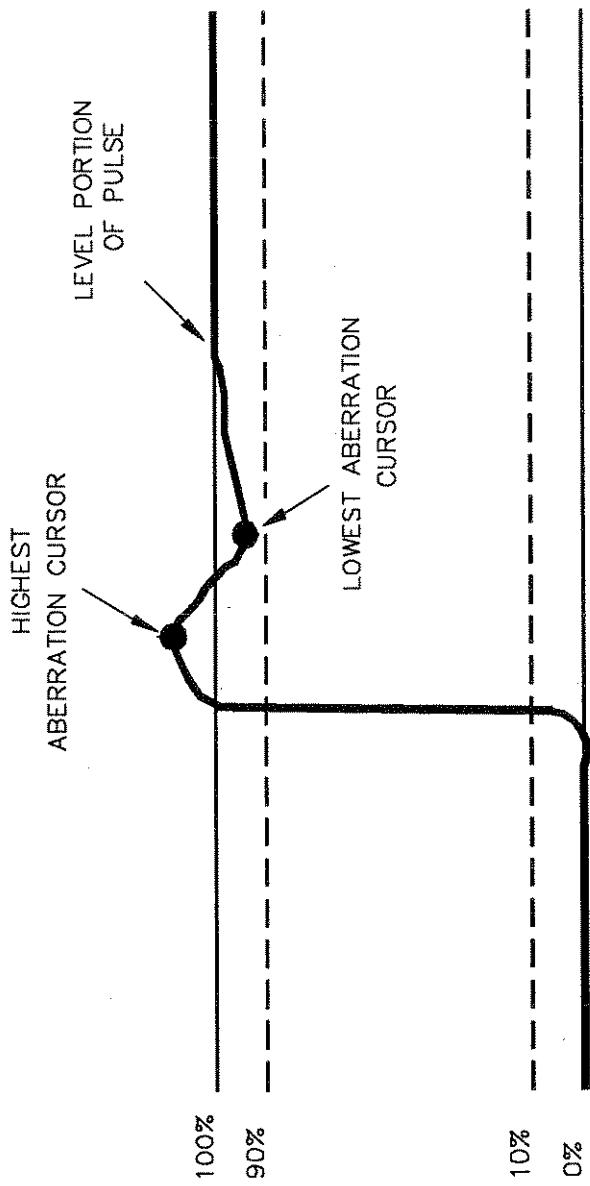

Figure 4-3. Typical Aberration Averaging Display.
m. Adjust the oscilloscope system Main Size so that the 100% level of the oscilloscope measurement system is referenced to the flat portion of the pulse (see Figure 4-3).
n. Use the WAVEFORM, Acquire Description and Cursors (on the highest and lowest aberration points) to obtain an average of the front corner aberrations (refer to Figure 4-3).